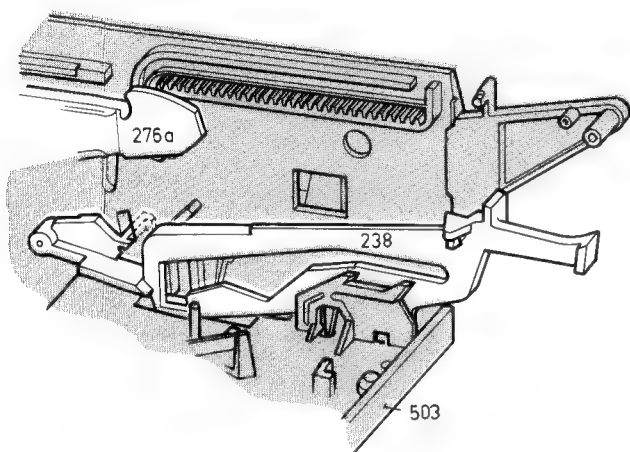

Fig. 1-22
- Demount lift pos. 201 (1.1).
- Thread until the lift drive lever pos. 276-b is in vertical position.
- Pull out the lift cover lever toward the left (Fig. 1-22).